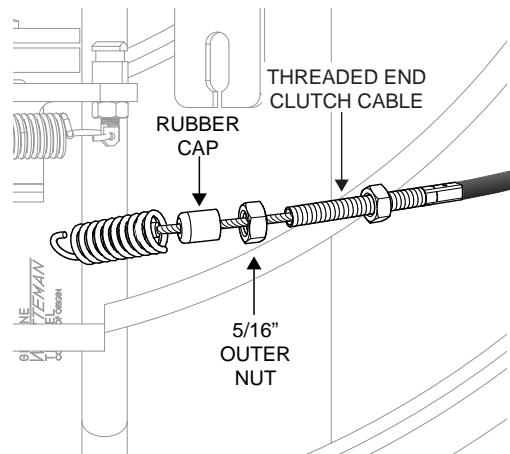

Figure 16. Outer Nut And Rubber Cap Removal
6. Remove the 5/16" outer nut (Figure 16) and rubber cap from the threaded end on the clutch cable.